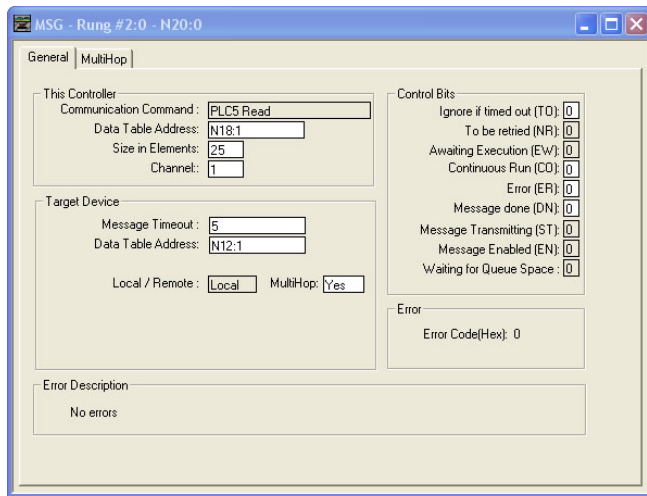

Figure 117: MSG Configuration, "General" Tab
- Upon hitting the <ENTER> key while in the “Control Block” entry box, the MSG Properties dialog box should appear (or it can be opened by clicking on the “Setup Screen” button at the bottom of the MSG instruction). Refer to Figure 117.